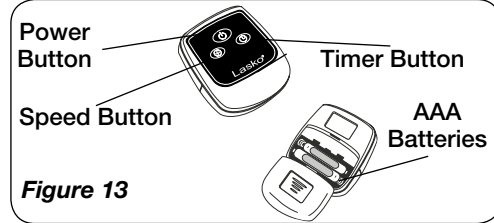

Figure 13
This Fan may be operated by the Manual Controls located on front of the unit or by the Remote Control (shown in Figure 13).
1. Install batteries (not supplied) as shown in *Figure 13*. The battery is size “AAA”.
TILTING: This Fan is equipped with a multi-angle Fan Head for Whole-Room Air Circulation. Follow the steps below to properly adjust the "tilt angle" of your Fan. (Figure 13) Place one hand on the pole just under the Fan Neck. Place your other hand on top of Fan. Gently push or pull the Fan Head until it is in the desired position.